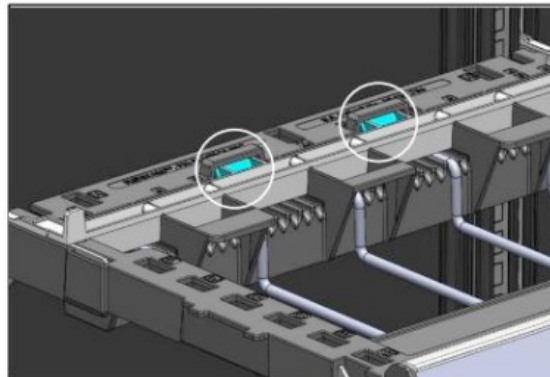

Figure 4
4. Note that the two middle tabs must be secured under the raised portion by slightly flexing them into the position (See Figure 4).